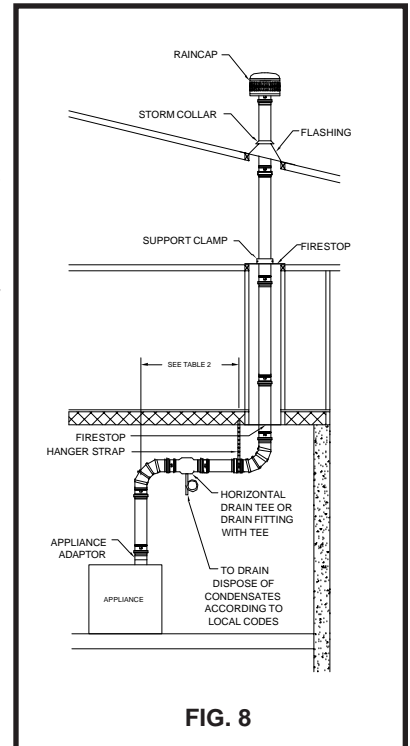

FIG. 8
1. Starting at the appliance outlet, attach the first section or appliance adaptor. (See **FIG. 8 & 9** for typical installation.)